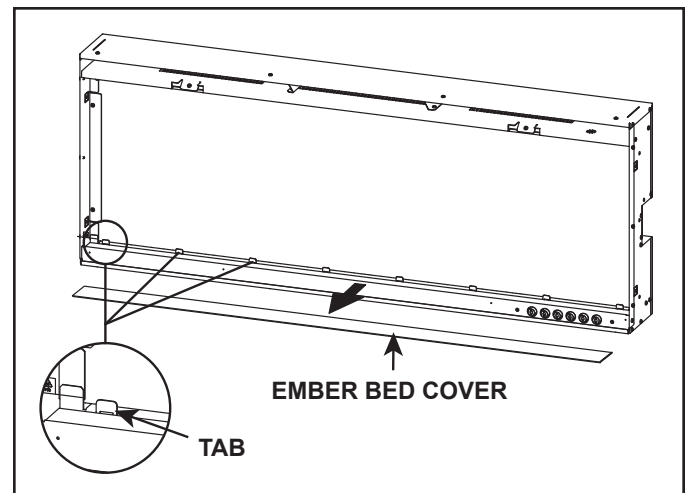

Figure 4 Remove Ember Bed Cover
5. Using a flathead screwdriver, pry open the tabs as shown in Figure 4. Pry the tabs upward at a 30 degree angle. During this step, take care not to scratch or damage the glass panel behind the tabs.
6. Remove the ember bed cover. See figure 4.